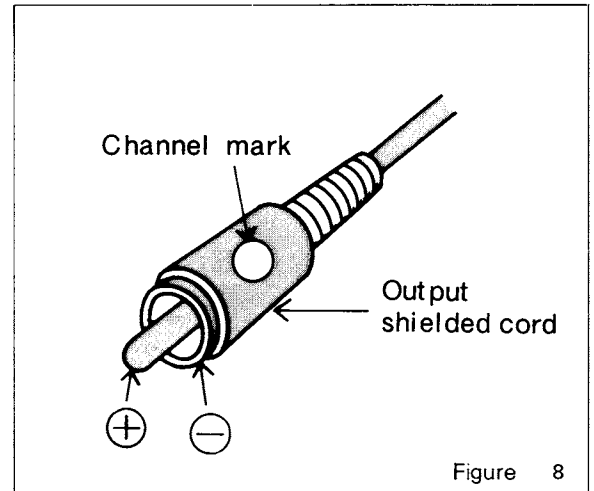

Figure 8
**No:** Perform continuity test between tone arm end and output shielded cord on dead channel (Fig. 8 ).